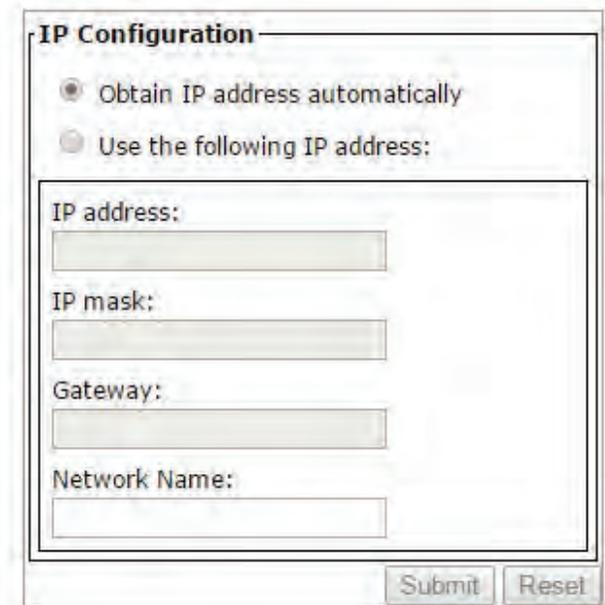

FIGURE 22. IP Configuration.
2. If using a fixed IP address, select "Use the following IP address:" Then, set the IP address, mask, and gateway. See Figure 22.